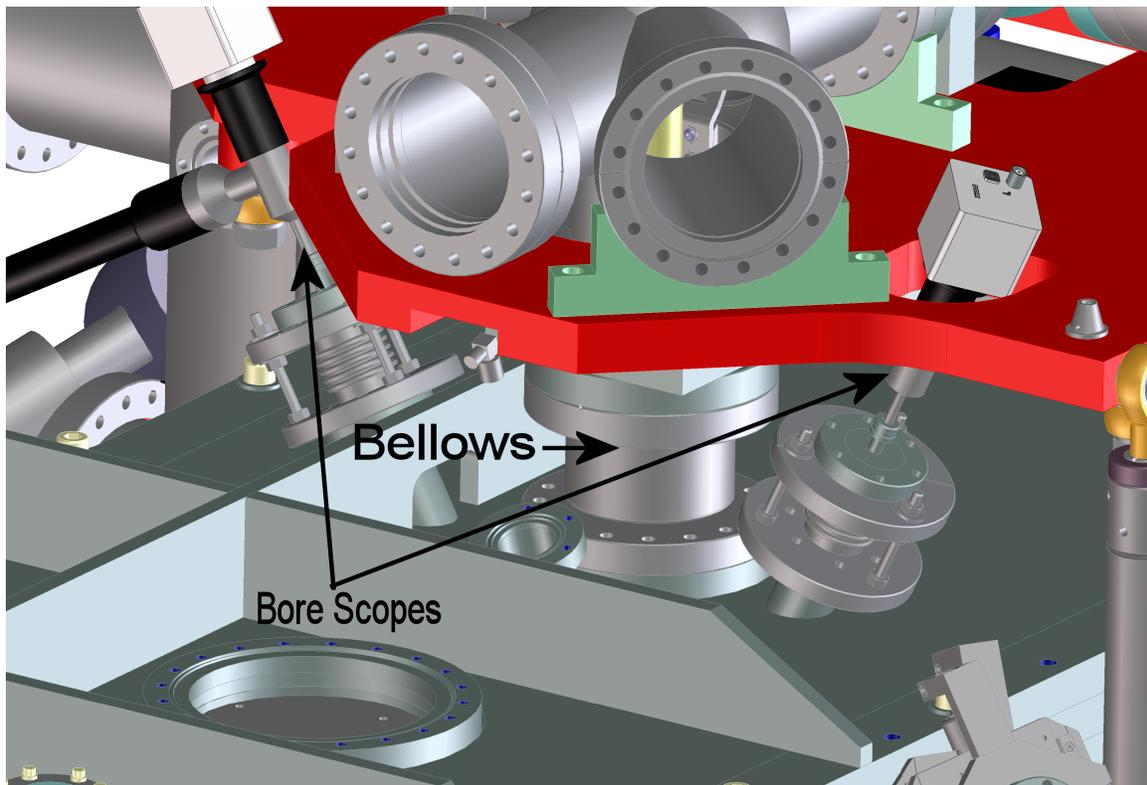

Figure 1. Location of sample transfer bellows and the bore scopes.
3. Pull out the bore scopes inserted through the lid (see Figure 1).
4. Remove the bellows between the vacuum vessel lid and the sample transfer system (see Figure 1).